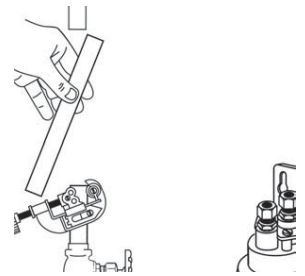

Figure 7
7. Turn off cold water supply valve and open cold water tap to relieve system pressure. Cut cold water tubing using a tube cutter or razor knife. Do not use a hacksaw, etc. Place a pan under it to catch any water present. (Figure 7)